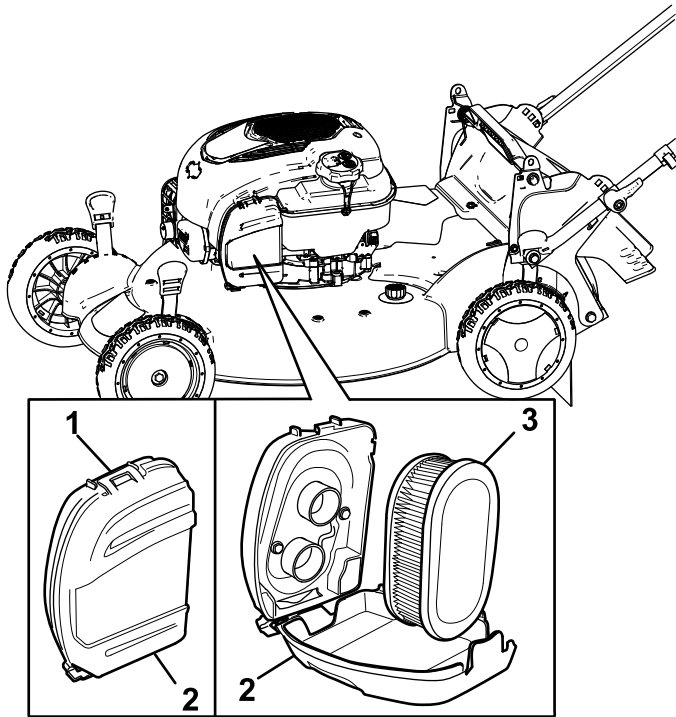

Figure 27
1. Unclip the top of the air-filter cover (Figure 27).
2. Remove the air filter (Figure 27).